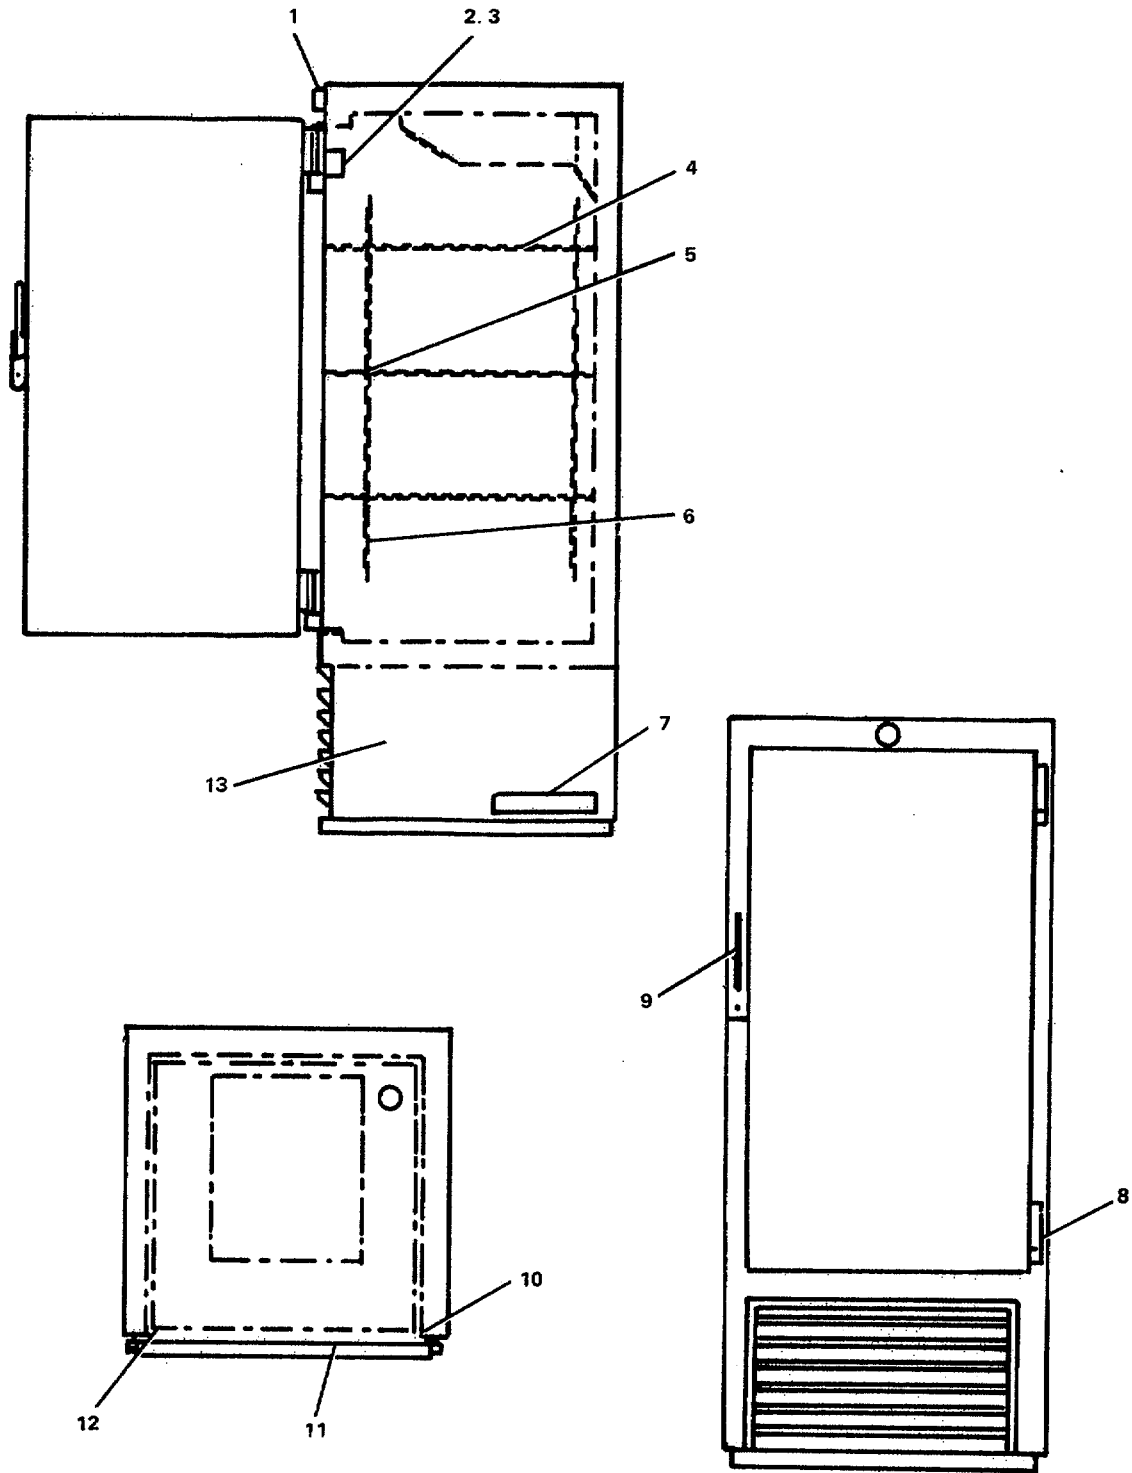

FIGURE 3-77. *Repair F-20 Mechanical Food Freezer.*
**3-79. Repair F-20 Mechanical Food Freezer. (Figure 3-77)**